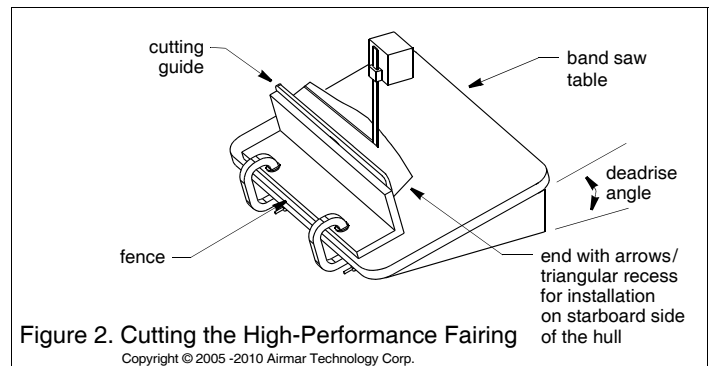

Figure 2. Cutting the High-Performance Fairing
2. Tilt the band saw table to the measured angle and secure the cutting fence (see Figure 2).